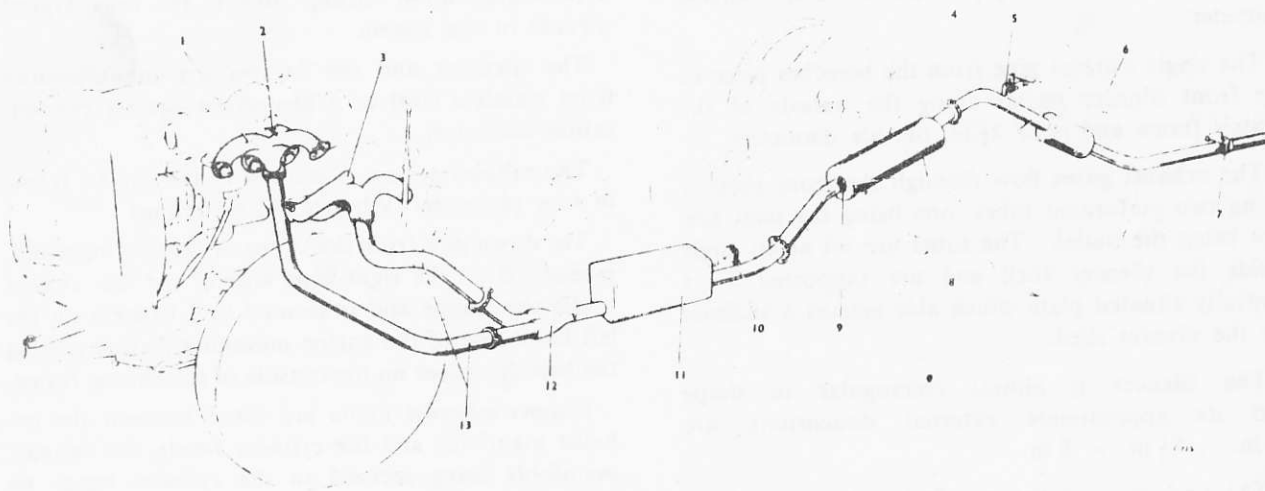

Fig. Q1 (S) Exhaust system — S3 cars (except Phantom V)
Remove the two union nuts attaching the choke stove pipes to the right-hand side exhaust manifold (see Fig. Q1 (S) of this Supplement).
Remove the bridge clamps from the outlet pipe of the front silencer (see Fig. Q1 (S) of this Supplement).
Support the rear silencer while removing the setscrew securing the silencer bracket to the 'Vibrashock' mounting (see Fig. Q1 (S) of this Supplement).
Remove the setscrew securing the tailpipe bracket to the 'Vibrashock' mounting (see Fig. Q1 (S) of this Supplement).